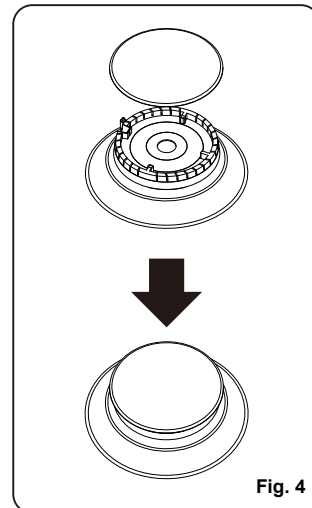

Fig. 4
1.) Match the burner caps to the burners by size and then re-install the caps on the burner heads (Fig. 4).